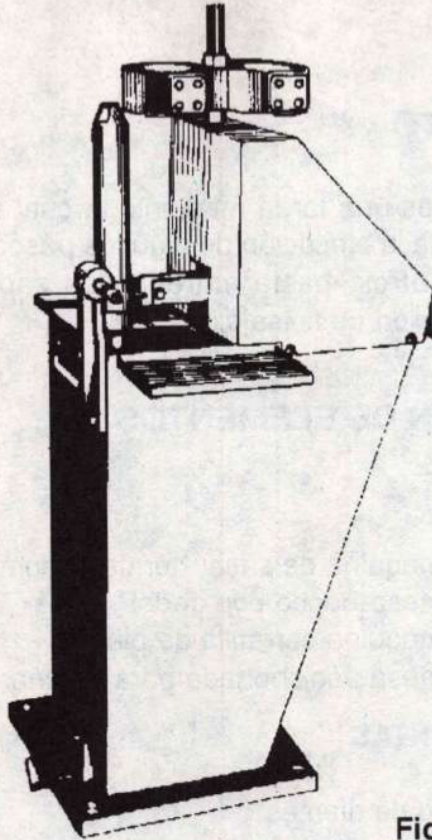

Fig.1
1. MÁQUINA NEUMÁTICA PARA SACAR HORMAS (Fig. 1)